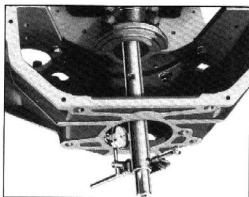

Fig. 9—Clutch Housing Alignment
4. Thread the boring bar (6) through the bushings from the rear to the front. Then mount the dial gauge on the boring bar and check the alignment of the transmission pilot hole in the clutch housing as shown in Fig. 9. The runout must not exceed .015". If it does, it will be necessary to replace the clutch housing before proceeding with the job of installing new main bearings.
5. Remove the boring bar and the centering bushing in the rear bearing. Then install the clutch housing centering bushing (5) in the transmission pilot hole of the clutch housing.